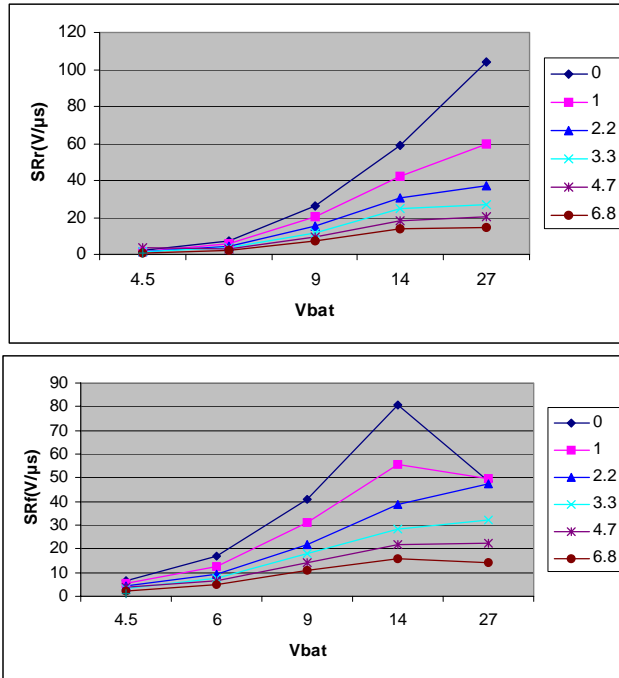
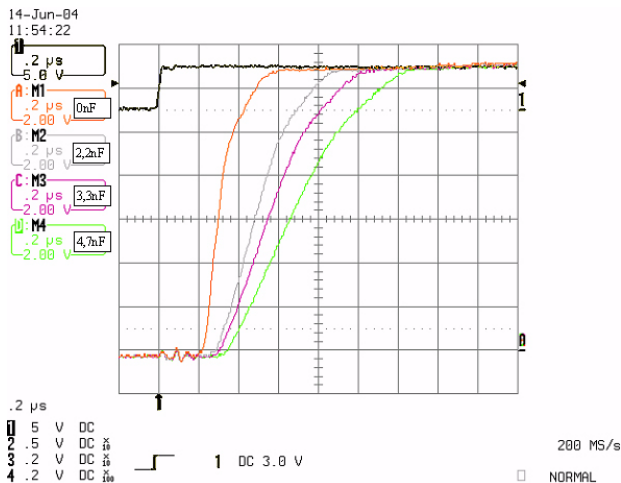

Figure 36. Positive and Negative Slew Rate vs. SR Capacitor
Figure 37. OUT switching vs. SR Capacitor
The switching time is a critical parameter. The 33981 provides adjustable slew rates through an external capacitor (SR) that slow down the rise and fall times to reduce the electromagnetic emissions. However, this adjustment will have an impact on power dissipation. Figure 36 gives the positive (SR_P) and negative (SR_F) slew rate versus different values of SR. This is illustrated in Figure 37.